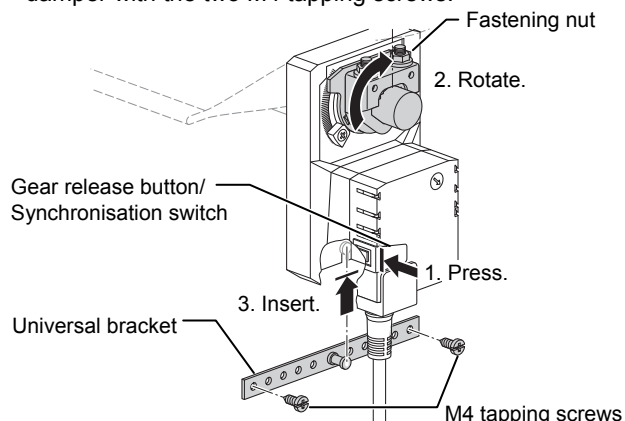

Figure 7. Attaching the universal bracket
3) While pressing the gear release button, manually rotate the shaft clamp until it is in the upright position shown in Fig. 7. Then, insert the universal bracket into the slit of the actuator and fix the bracket onto the damper with the two M4 tapping screws.